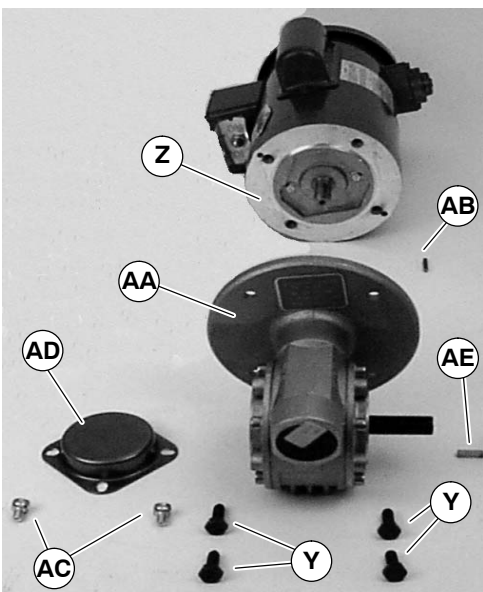

Figure 22
- Remove four screws (Y of Figure 22). Detach motor (Z) from gear reducer (AA). Retain motor output shaft key (AB).
- With key (AE of Figure 22) in keyway, slide motor (Z) and gear reducer (AA) together. Install screws (Y) and tighten.